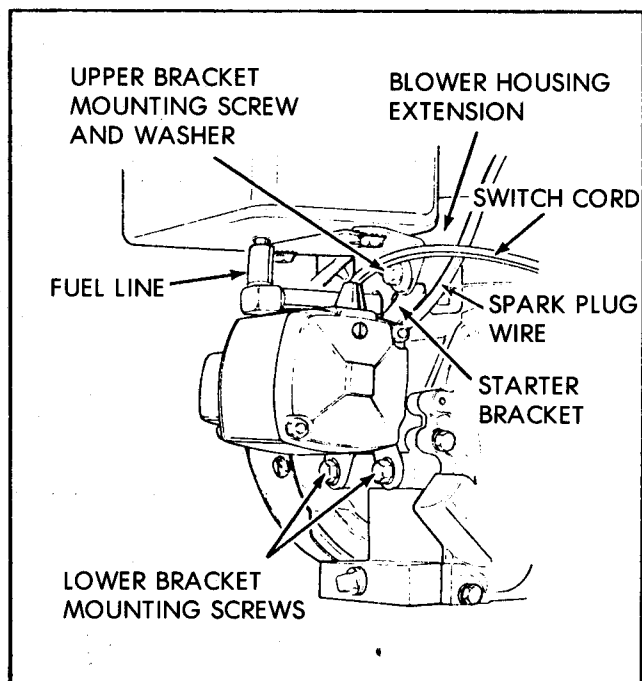

FIGURE 3
5. Insert starter bracket underneath blower housing extension and route spark plug wire underneath starter bracket. (See Figure 3.)
6. Insert two of the three self-tapping screws included in the kit into the lower starter mounting bracket. The self-tapping screw will cut thread. Put the large flat washer on the third screw and insert it through the lower fuel tank bracket, blower housing extension and starter mounting bracket and tighten it securely. (See Figure 3.)